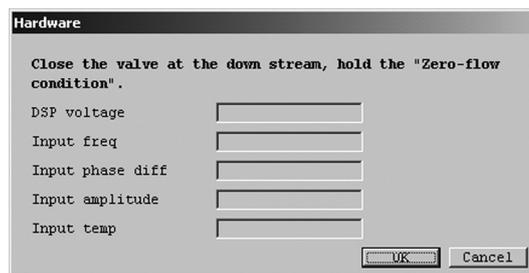

Fig.92
- ① Click the "Diag/Service (T)" menu, select "Self Diag" from the "Test/Status" drop-down list, and then click "Hardware" under that.
- ② The following window will be displayed (Fig. 92). This will check the hardware. Click "OK" after completely stopping the fluid.